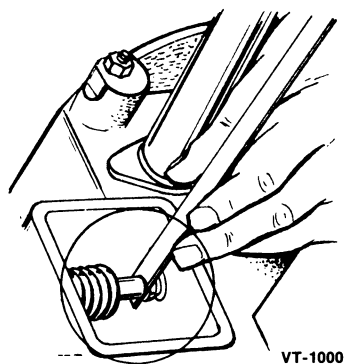

FIGURE 24. VALVE CLEARANCE
5. The correct feeler gauge for the valve adjustment (see *SPECIFICATIONS*) should pass freely between valve stem and tappet; a .002 inch (0.05 mm) thicker gauge should not (Figure 24).